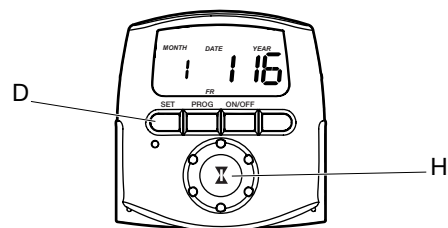
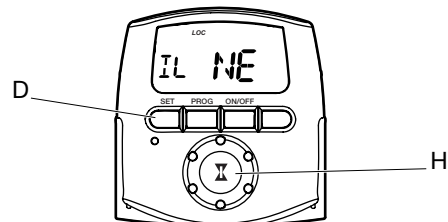

FIG 3. Setting the Date
FIG 4. Setting the State
2. Turn the selector knob (H) to select the correct **YEAR**. Press **SET** (D). See FIG. 3.
3. Turn the selector knob (H) to select the correct **MONTH**. Press **SET** (D). See FIG. 3.
4. Turn the selector knob (H) to select the correct **DATE**. Press **SET** (D). See FIG. 3.
5. Turn the selector knob (H) to select the correct Daylight Savings Time setting. The options are OFF, US/CAN, and Mex.
- a. If in Hawaii or Arizona, select OFF. Press **SET** (D).
- b. If you live in a part of Mexico that observes US/Canada Daylight Savings Time, select US/CAN. Press **SET** (D).
6. Turn the selector knob (H) to select the state you are in. Press **SET** (D). See FIG. 4.
7. Turn the selector knob (H) to select the section of the state you are in. Press **SET** (D). See FIG. 4.